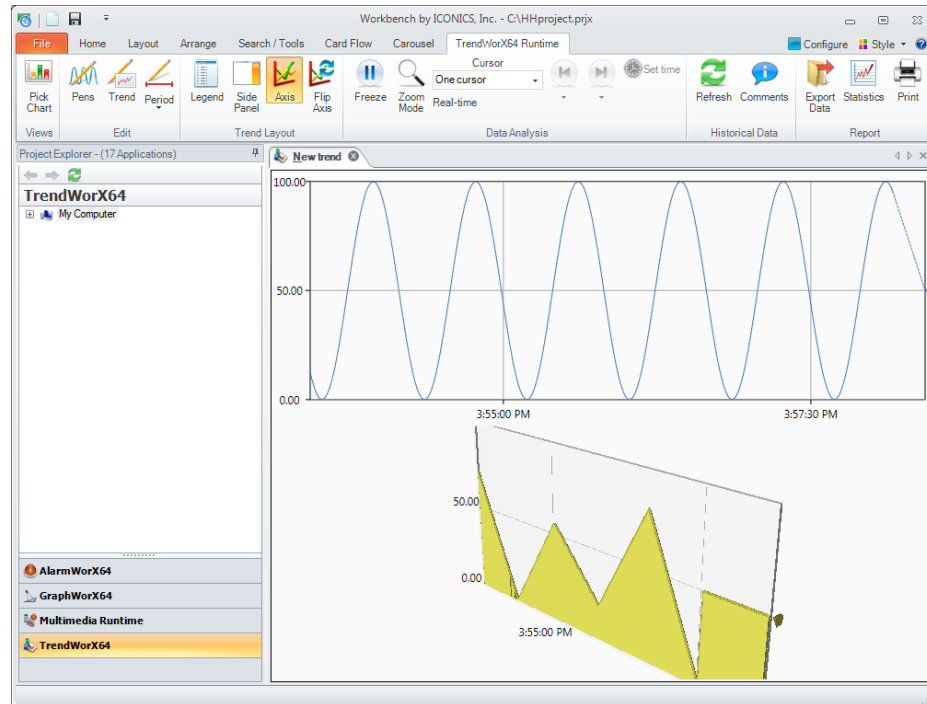

Figure L1.11 - Viewing Historical Data
18. In the Workbench Project Explorer, in the New Trend that you just created, click Runtime and you'll see the trend in motion. An example is shown in Figure L1.11.
19. From the TrendWorX64 Runtime ribbon (shown at the top of the Workbench in Figure L1.11), you can configure the trend during runtime, change plot types (line, area, bars or pie), edit the trend's visual appearance, configure the timing for trend period and rates, show or hide axes, swap the X and Y axes, zoom within the trend viewer, freeze and unfreeze the trend, or show and hide the legend.